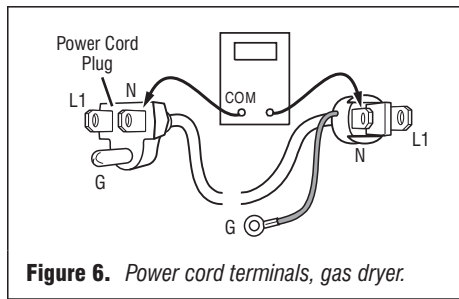

Figure 6. Power cord terminals, gas dryer.
5. With an ohmmeter, check for continuity between the neutral (N) terminal of the plug and P8-3 (white wire) on the machine control board. The left-hand side of figure 6 shows the position of the neutral terminal (N) on the power cord plug. Also see figure 18, page 10.
the continuity of the power cord neutral wire as illustrated in figure 6. If an open circuit is found, replace the power cord. Otherwise, go to step 6.
- If there is no continuity, check the continuity of the power cord in a similar way to that illustrated in figure 6, but for power cord's L1 wire.